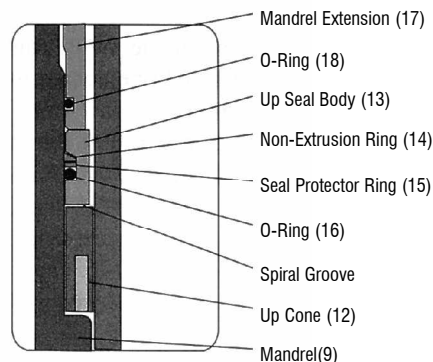

Figure 7.3
1. Install Non-Extrusion Ring (14), Seal Protector Ring (15), and O-ring (16) onto the ID of the Up Seal Body. Refer to Figure 7.3.
CAUTION: The Up Cone should be assembled as shown in Figure 7.3. The Cone will not function properly if it is installed incorrectly on the Mandrel.